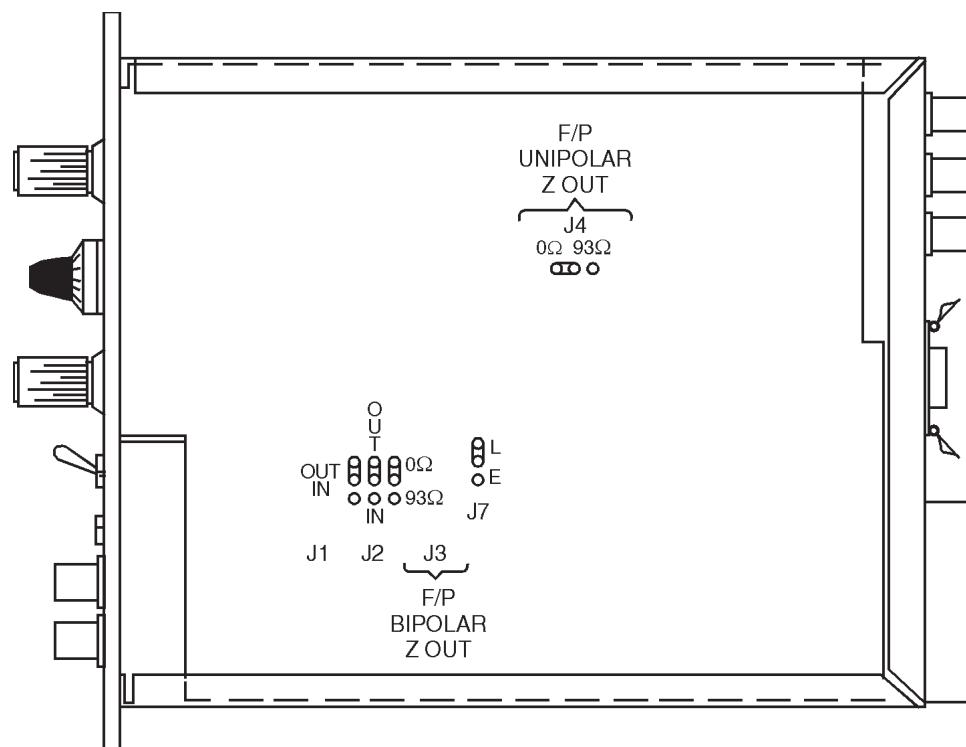

Figure 4 Internal Controls (Right Side Cover Removed)
1. Prior to installation, the internal controls should be set to their desired positions. See Figure 4 for the locations of the controls.
Faster shaping-time constants (0.5 through 4 μ s) give rise to output noise spectra having different frequency components than the slower shaping-time constants (5 through 12 μ s). The Model 2022 provides a restorer response for each of the two conditions: linear (L) response for the faster time constants and an exponential (E) response for the slower time constants. Jumper plug J7 (see figure 4) selects the required response. Shipped in the linear (L) position. See “System Setup, Internal Controls” on page 6 for more information.